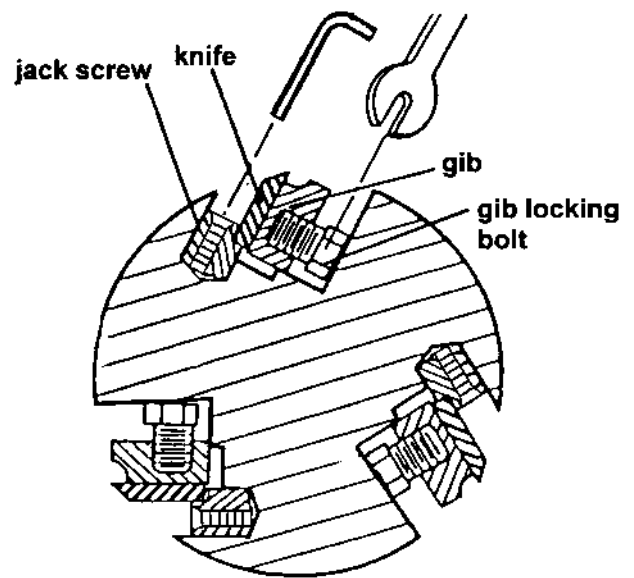

FIGURE 15
2. Remove the old knives by loosening gib locking bolts and removing gib, knife, and jack screws, Figure 15.